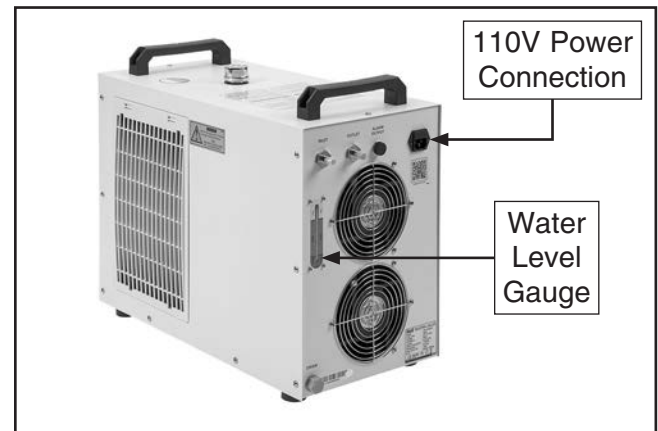

Figure 19. Water level gauge location.
7. Connect power cord to 110V power connection on water chiller (see **Figure 19**).
8. Connect water chiller system to power and turn **ON**. Allow water to cycle for one minute and continue filling reservoir with distilled water until water level is in green area on water level gauge (see **Figure 19**).